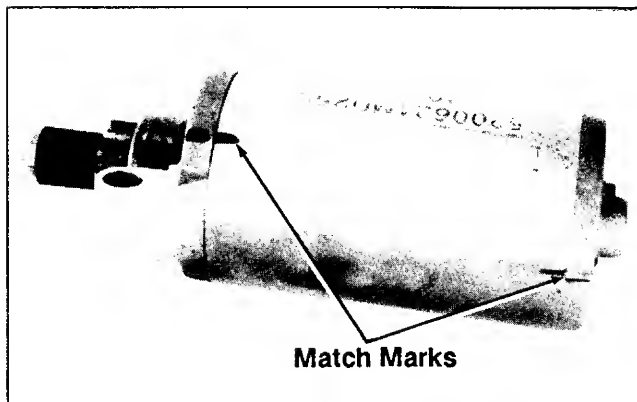

Figure 8-8. Starter Assembly Match Marks.
2. Scribe a small line on the drive end cap, opposite the line on the starter frame. These lines will serve as match marks when reassembling the starter. See Figure 8-8.
3. Install the drive end cap over the drive shaft. Make sure the match marks on the end cap and starter frame are aligned. See Figure 8-8.